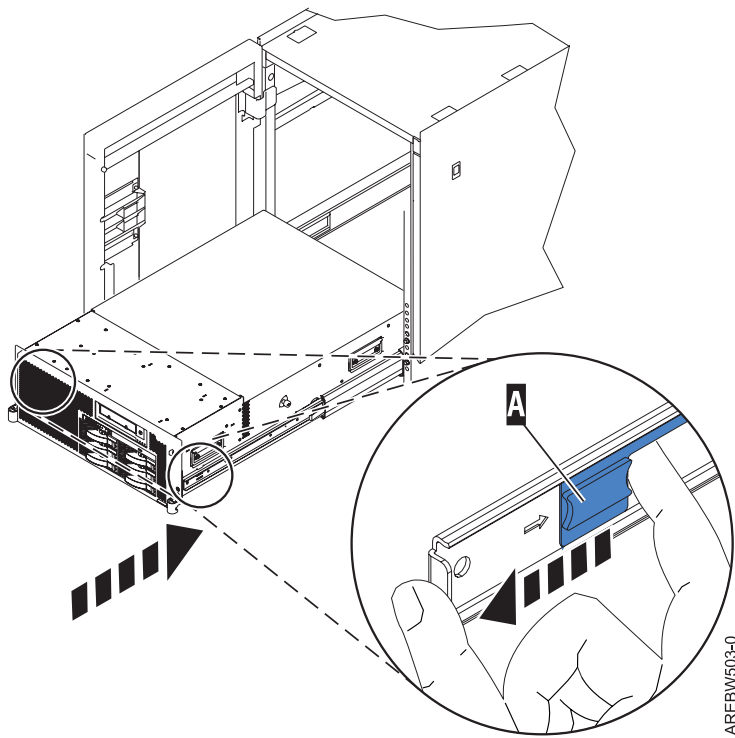

Figure 6. Inner rail extended
9. Simultaneously press the safety latches and push the system unit into the rack until it locks as shown in Figure 6.